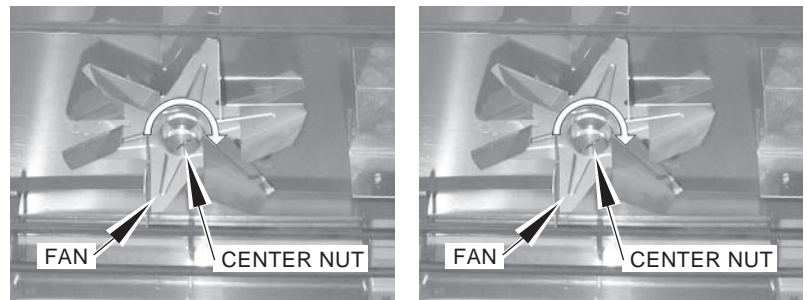

Fig. 50
5. Remove both fan blades. Unscrew the center nut on each fan blade (clockwise, Fig. 50).